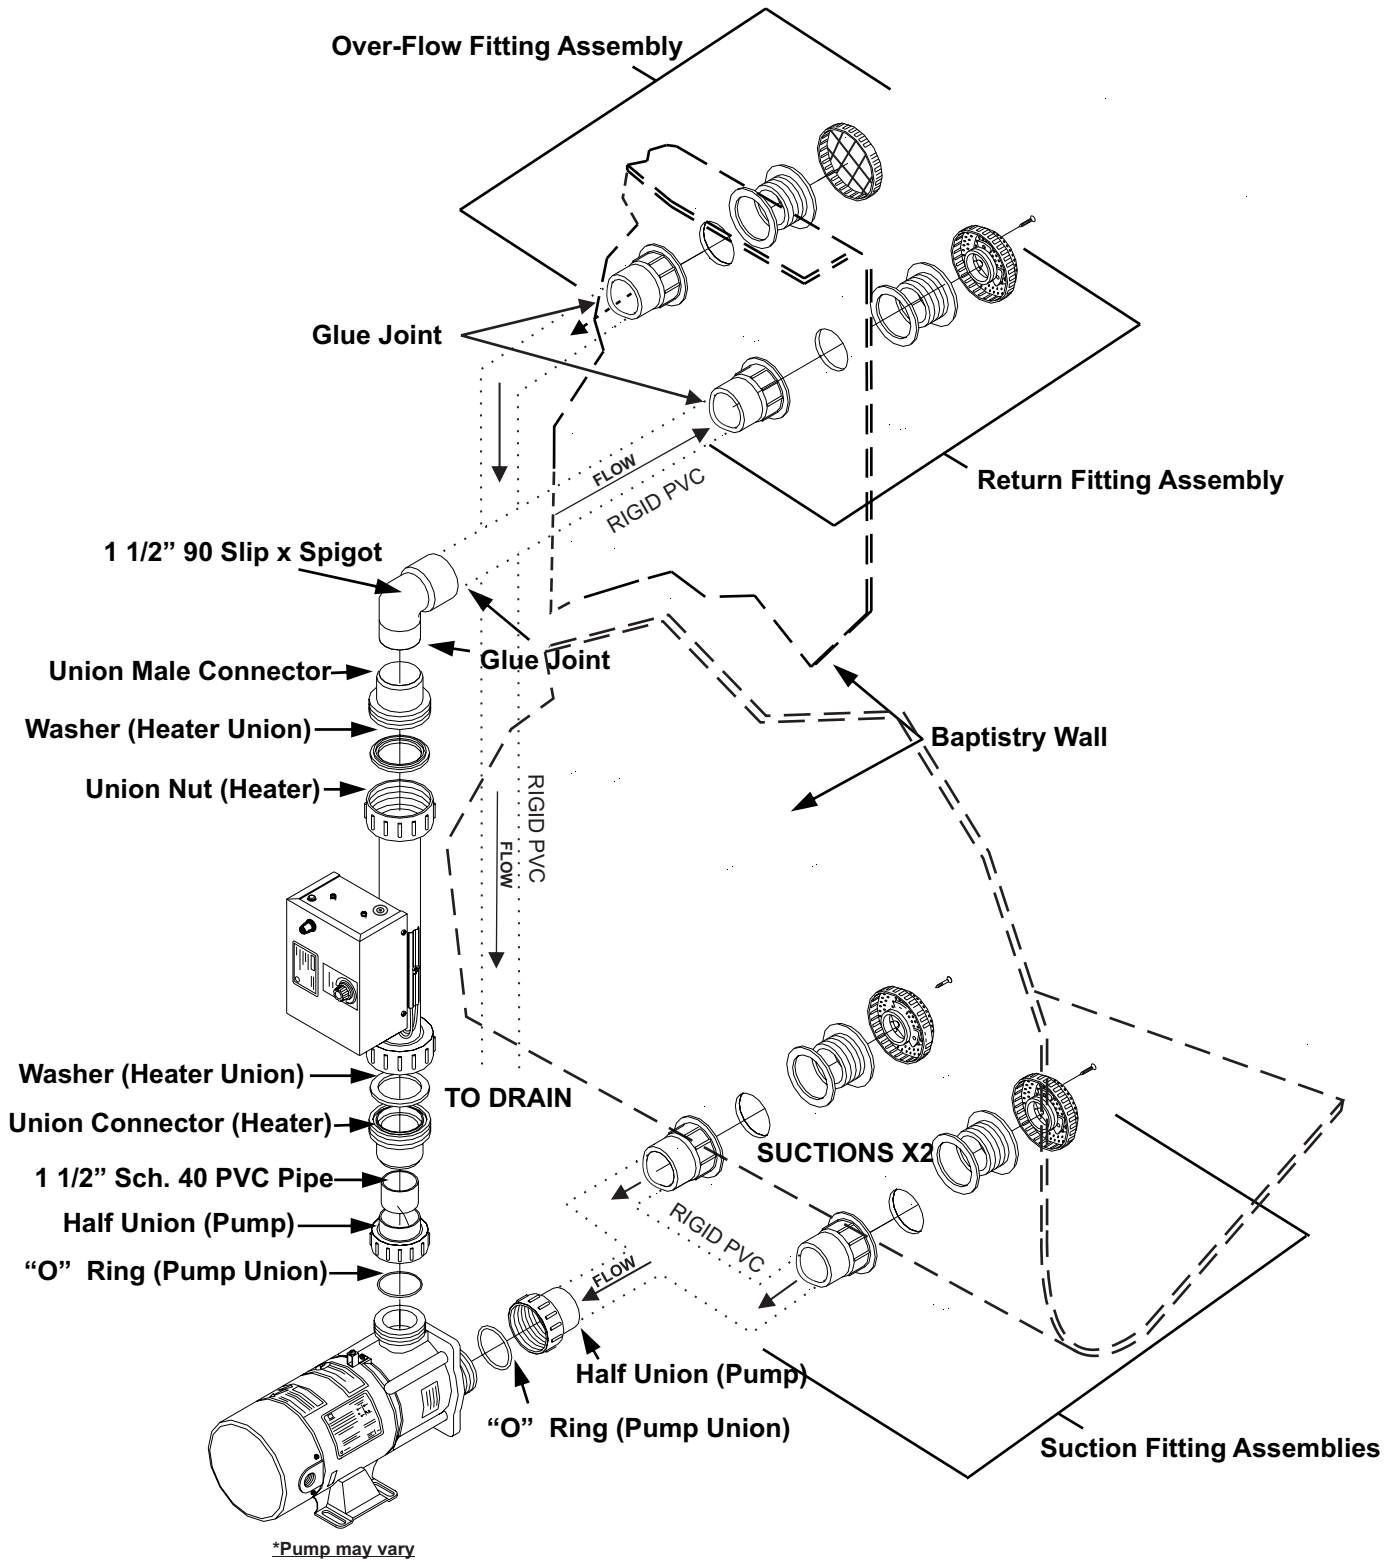

Figure 1
- The system must be located in and *indoor location only*, with a minimum clearance of six (6) inches to all combustible construction.
- For best efficiency, the heater *should be located within five (5) feet of the baptistry*.
3. With the heater/pump assembly positioned in its approximate desired final location, in line and level with the suction fittings. Determine the exact pump mounting position by preassembling the plumbing as shown in Figure 1. *Be sure to align the pump in such a way that the plumbing is not applying tension/stress to the baptistry wall. Allowing such tension will cause unnecessary noise/vibration and can cause leaks.*
4. After all parts have been pre-assembled and aligned with the holes, dis-assemble the unit and glue the necessary connections as shown in Figure 1.